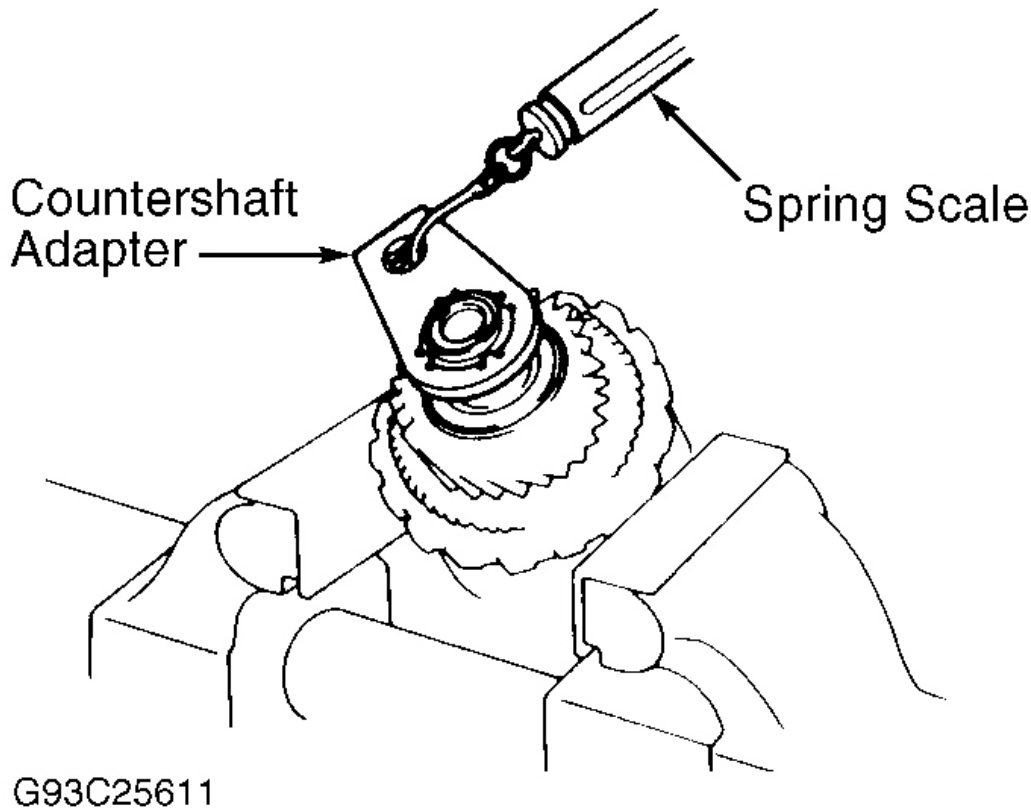

Fig. 39: Measuring Countershaft Torque
4. Using Countershaft Adapter (09351-32170) and a spring scale, measure starting torque of countershaft. Before measuring starting torque, turn countershaft firmly to seat bearing. Starting torque should be 2.6-4.4 lbs. (1.2-2.0 kg). Replace spacer if starting torque exceeds specification. Recheck starting torque. See **Fig. 39**.